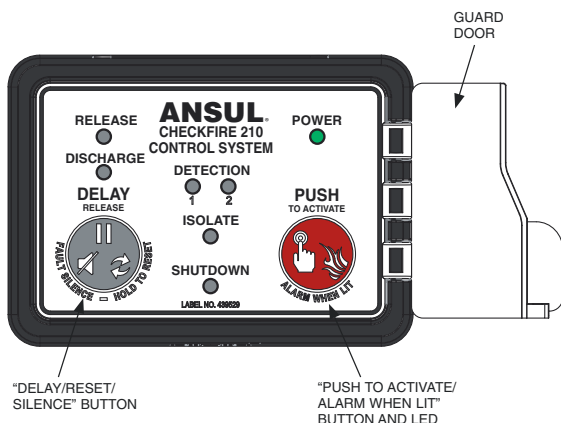

Figure 2-7-4 CHECKFIRE 210 ICM
The operator may activate the system by pressing the red button on the CHECKFIRE 210 ICM located to the right of the steering column, mounted to the right hand wall of the cab (see Figure 2-7-2 and Figure 2-7-4).
1. Swing the guard door open, press the red "Push to Activate" button on the CHECKFIRE 210 ICM and then LEAVE THE VEHICLE (see Figure 2-7-4). Fire retardant will be released, the engine will shut down, and the batteries will be disconnected from the electrical system.